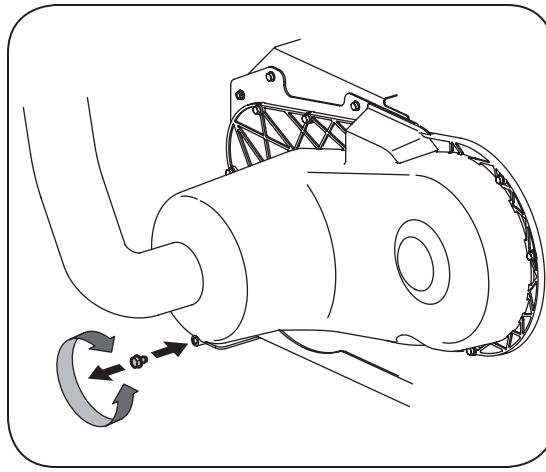

Figure 14
1. Remove CVT cover drain plug. See Figure 14.